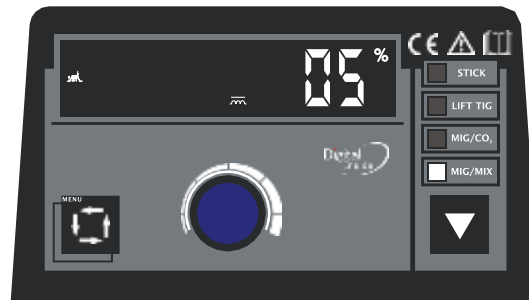

Fig.6 Fine adjustment of inductance range under MIG mode
- d) Press the 【Menu button】 for the 2nd time, the 【Main display】 shows the fine adjusting range of inductance. Turn the 【Data adjusting knob】 to set the range from -10% to +10% as Fig.6.